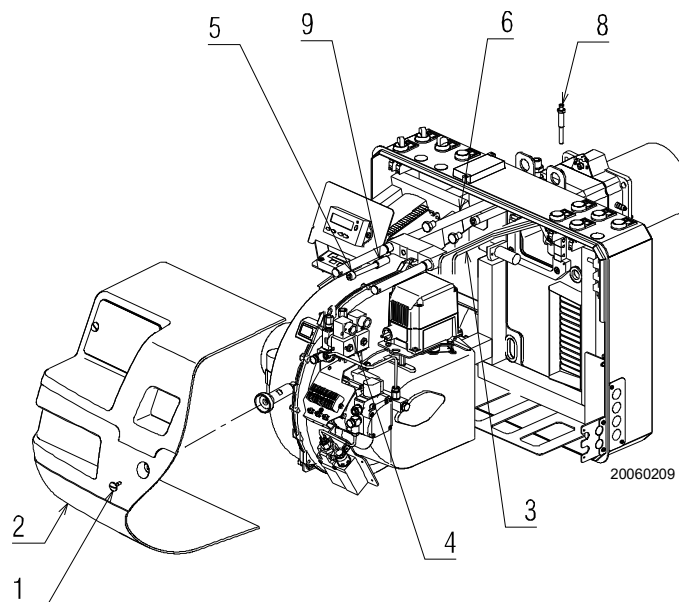

Fig. 45
- remove screws 1)(Fig. 45) and withdraw cover 2);
- refit screw 5)(Fig. 45) and pull the leads gently out until they are slightly stretched;